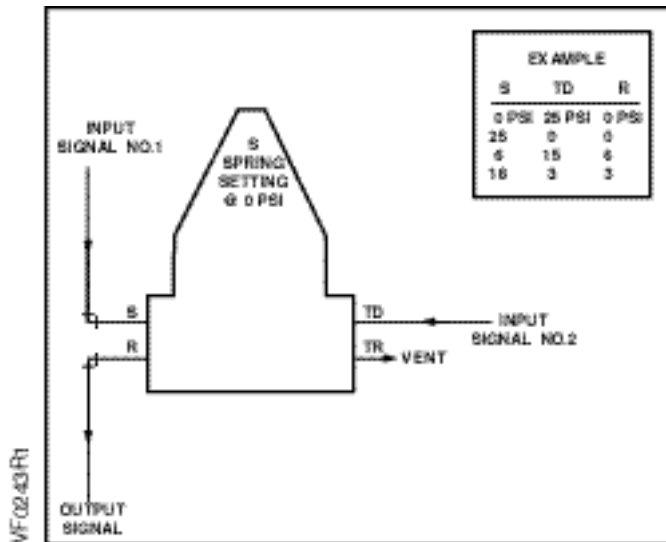

Figure 4. Lower Pressure Transfer Relay.
- Lower pressure transfer relay (See Figure 4).
Output pressure will equal the lower of the two input signals. Internal relief valve prevents signal lock up when pressure at S-port drops below relay output pressure (maximum differential within 1.0 psi) (Figure 4).